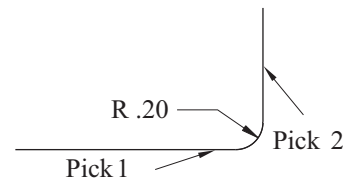

Figure 5-20 Selection Points for the .2 Radius Fillet
40. Use the mouse to select an entity, pick line 1, then line 2 as shown in Figure 5-20.